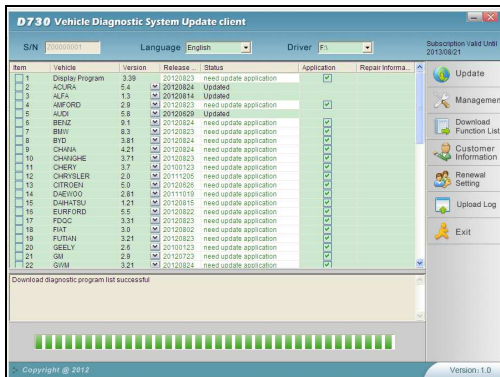

Fig 2-2 Downloads progress
- (1) Input the serial number and password then click the **[OK]** button to connect to server. It takes some seconds before the download is finished like Fig 2-2.
- (2) The default server is 'www.OTC.net'. Normally you do not have to change the server.